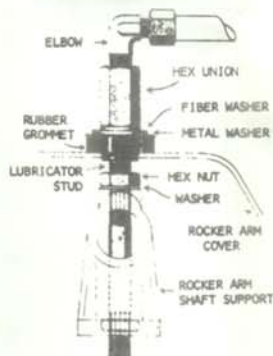

Fig. 2
6. REMOVE VALVE COVER AND DRILL A 5/8" DIA. HOLE AT PUNCH MARK. REMOVE PUNCH PIN AND INSTALL THREADED LUBRICATOR STUD INTO ROCKER ARM SHAFT SUPPORT. (SEE FIG. 2)
7. INSTALL WASHER AND HEX NUT ON LUBRICATOR STUD AND TIGHTEN. ATTACH HEX UNION AND ELBOW FITTING TO LUBRICATOR STUD AND COPPER TUBE TO ELBOW FITTING. (SEE FIG. 2)
10. TO REPLACE COVER, REMOVE TUBING AND HEX UNION AND REPLACE VALVE COVER. (SEE FIG. 2) REASSEMBLE AND START ENGINE CHECKING ALL FITTINGS FOR LEAKS.